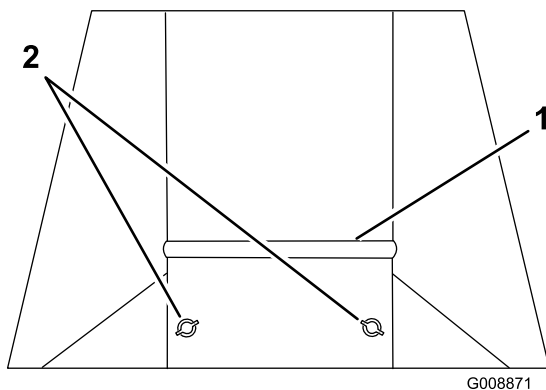

Figure 8
2. Loosen the 2 nuts on the mowing conditions plate and slide the plate up if you are mowing short, dry grass, or slide it down if you are mowing long, wet grass (Figure 8).